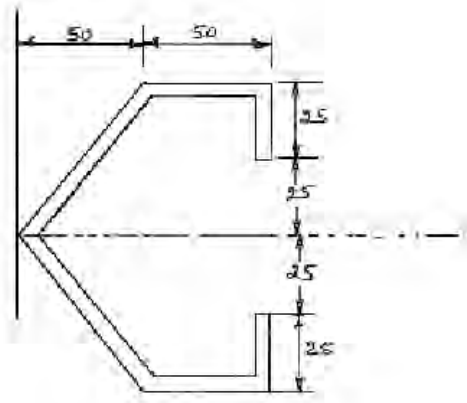

Figure 7:
7. Determine the Shear centre for the thin walled section, assuming uniform Thickness Shown in figure 7. All dimensions are in mm. [16]